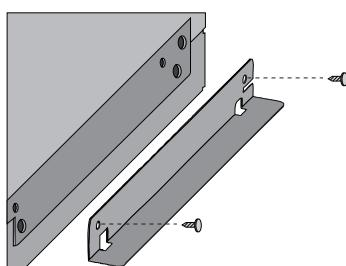

Figure 2B
3. Remove the 2 shipping duct supports (see Figure 2B) by removing the 2 screws securing each side. Reinsert 2 screws (each side) to secure the stainless cover.